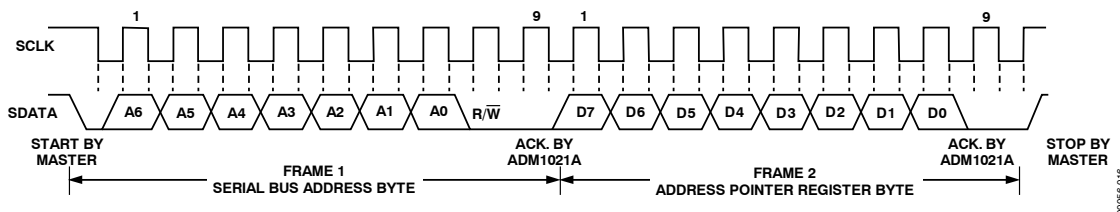

Figure 16. Writing to the Address Pointer Register Only
1. If the ADM1021A's address pointer register value is unknown or not the desired value, it is first necessary to set it to the correct value before data can be read from the desired data register. This is done by performing a write to the ADM1021A as before, but only the data byte containing the register read address is sent, because data is not to be written to the register. This is shown in Figure 16.
2. If the address pointer register is known to be already at the desired address, data can be read from the corresponding data register without first writing to the address pointer register, so Figure 16 can be omitted.